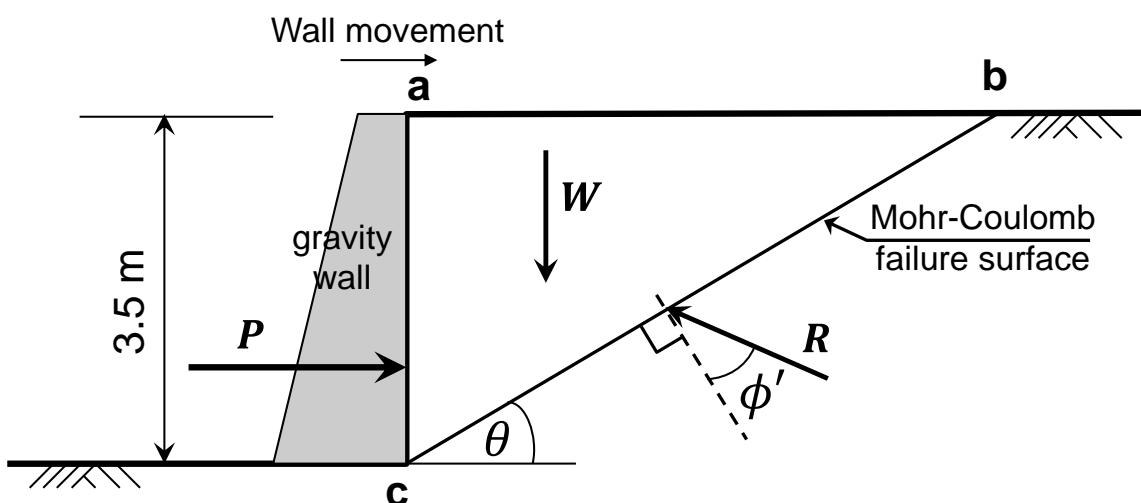

Figure Q4
4. The compacted granular fill shown in Figure Q4 is supported by a heavy, gravity-based retaining wall. The height of the wall is 3.5m. The base of the wall has suffered instability which has caused the wall to tilt back into the fill, promoting a planar failure surface ‘cb’, inclined at an angle, θ , of approximately 30° to the horizontal, as shown in Figure Q4. The effective cohesion in the granular fill is $c' = 0 \text{ kPa}$, the angle of internal shearing resistance is $\phi' = 35^\circ$ and the bulk unit weight $\gamma = 20 \text{ kN/m}^3$.
- (a) Using the Limit Equilibrium method of analysis determine the magnitude of the horizontal force P that the wall exerts on the soil, and the magnitude of the reaction force R in the failure surface, as depicted in Figure Q4, assuming that the Mohr-Coulomb failure criterion is mobilised along the failure surface.